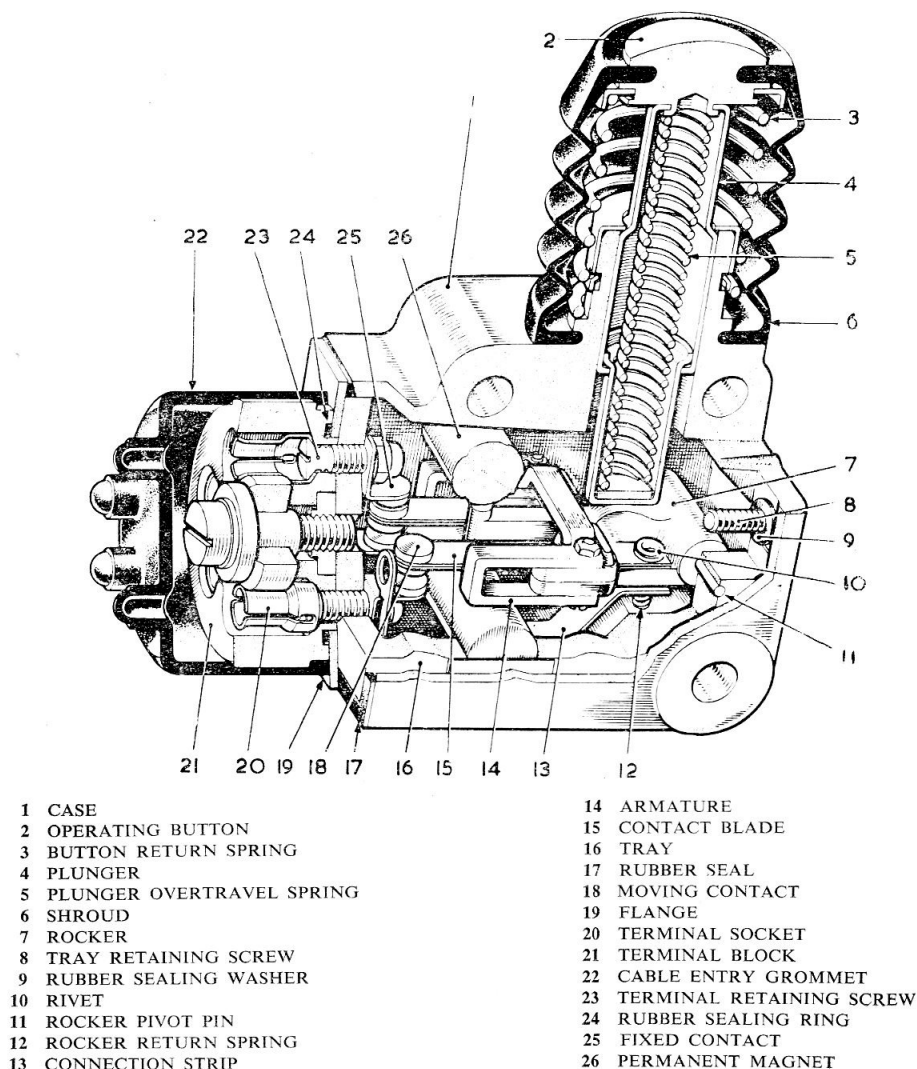

Fig. 2. Sectional view of microswitch
5. The bottom of the switch casing accommodates a Bakelite tray, to the outer face of which are secured a metal flange and a terminal block by means of the terminal fixing screws. The same screws are used to secure four fixed contacts, arranged in pairs, to the inner face of the tray and to connect them to the terminals, (fig. 2).
17. With switches fitted with S.B.A.C. terminations (fig. 2), 4A or 7A ferrules Ref. No. 5H/24 or 5H/25 respectively are to be crimped on to each conductor (or soldered, if a crimping tool is not available), and pushed home into the sockets with central screw slack. The central screw is then tightened to lock all the cable connections.